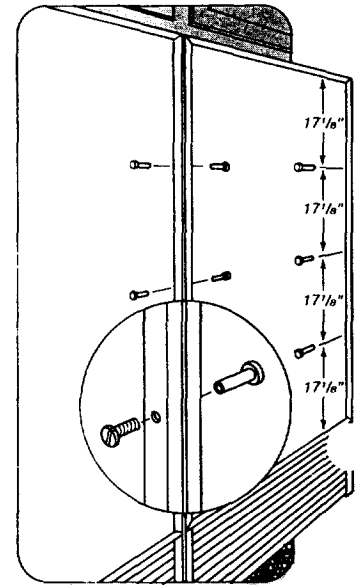
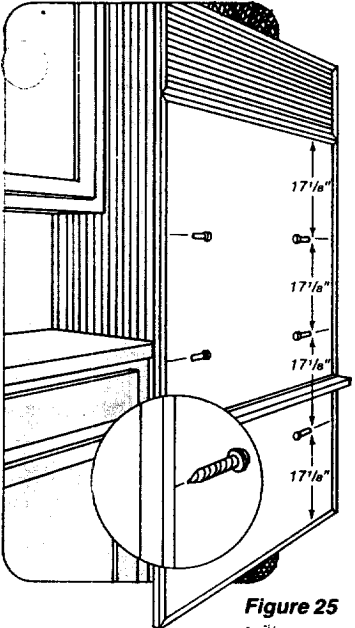

Figure 24
Figure 25
Figures 24 and 25 are examples.
**Instructions for product being tied together (see Figure 24):**
- 4) Drill three (3)  $\frac{3}{16}$ " holes (per specs in Figure 24) through both outer trims.
- 6) Install all six (6) Sems to the cabinetry.
**Instructions for fastening Models 501R, 501F, 550, 511, 561, 532, 542 and 590 to cabinetry (see Figure 25):**
- 1) Drill three (3)  $\frac{3}{16}$ " holes (per specs in Figure 25) through both outer trims.
- 3) Install all six (6) Sems.